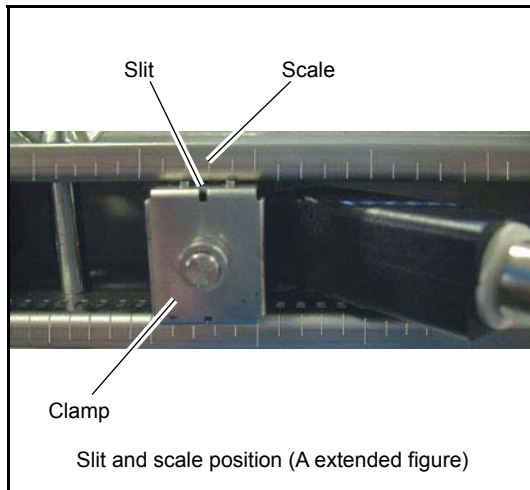

Fig. 5-11
- (2) Before mounting the sensor unit into the frame, sufficiently apply silicone filler (or silicone-free grease*) over the entire transmission surface of the sensor unit, taking care not to introduce bubbles. (Fig. 5-11)